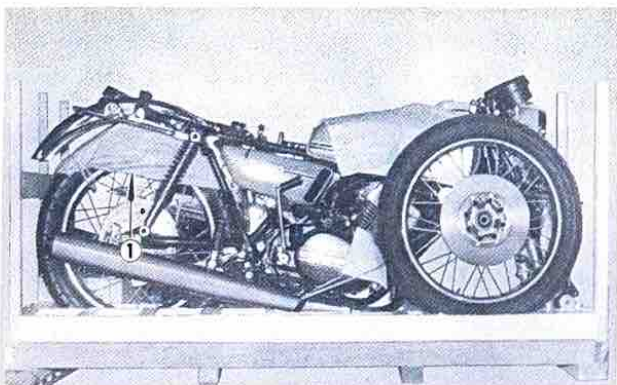

Fig. 8
1. Take out the front fender which is placed between the rear wheel and the rear fender, and take out the seat and front wheel which are placed on each side of the front forks. (Fig. 8)